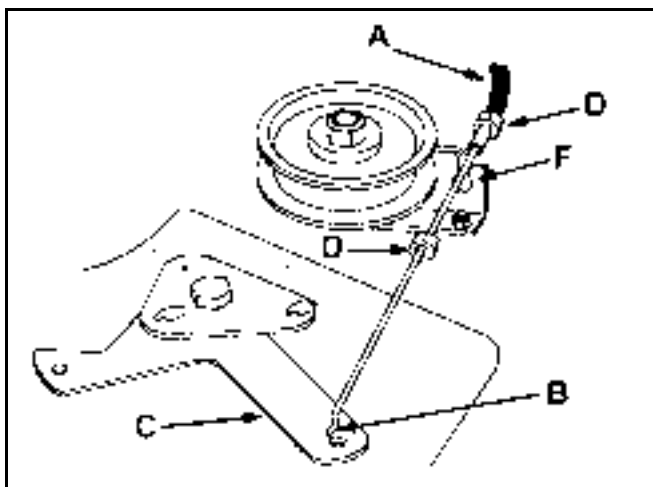

Figure 228
- Unhook the blade control (PTO) cable Z end from the idler arm on the mower (Figure 228).
- Remove rubber wiper and jam nut from blade control (PTO) at mounting bracket. Slide the cable from the bracket and re-install jam nut for safekeeping (Figure 228).